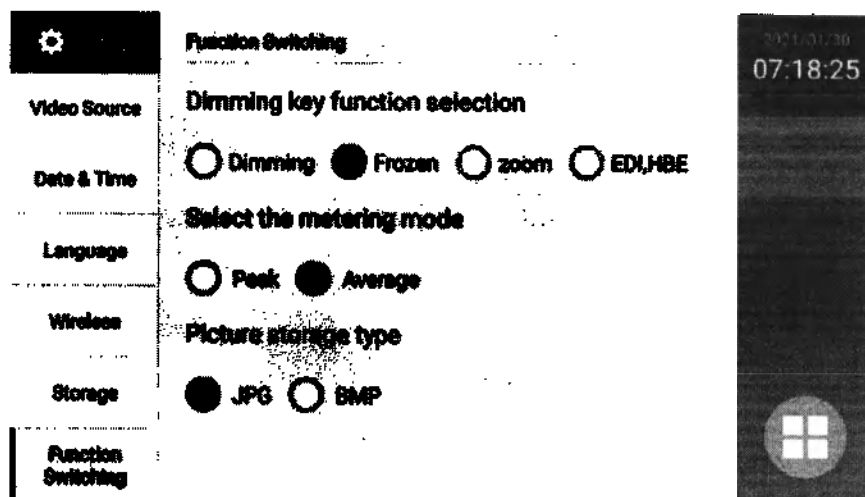

Fig3.11
3.9.1 Under the main menu, press the "function switch" button. Enter the function switch setting interface, and select "freeze" below (as shown in Fig 3.11). Then return to the preview interface.